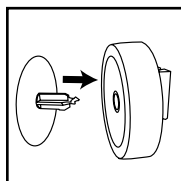

FIGURE 9
12. Insert wheel plug (with tab in upward position) through wheel and axle housing aligning the tab on the plug with the slot in the axle housing. **FIGURE 9.**